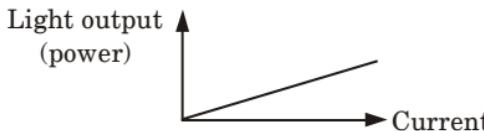

Fig. 3.6.1. An ideal light output against current characteristics for an LED.
1. The ideal light output power against current characteristics for an LED is shown in Fig. 3.6.1. It is linear corresponding to the linear part of injection laser optical power output characteristics before lasing occurs.